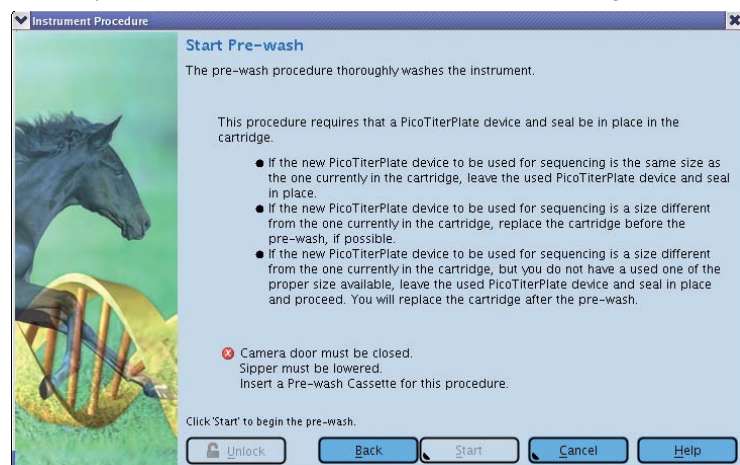

Figure 8: The Run Wizard's second window (last Wizard window for Pre-wash): Start Pre-wash
► This opens the Run Wizard's second window: Start Pre-wash (Figure 8).